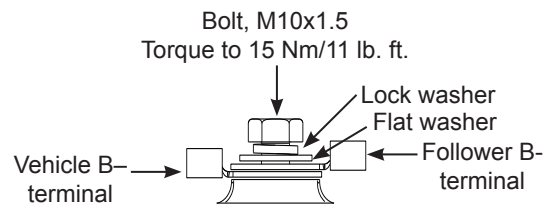

Figure 7: Leader Alternator B- Terminal Hardware Stacking Order
4. Follower alternator B- terminal must be connected to leader alternator B- terminal with cable gauge size equivalent to vehicle B- cable. Install mounting hardware in stacking order shown in Figure 7. Torque hardware to 15 Nm/11 lb ft.